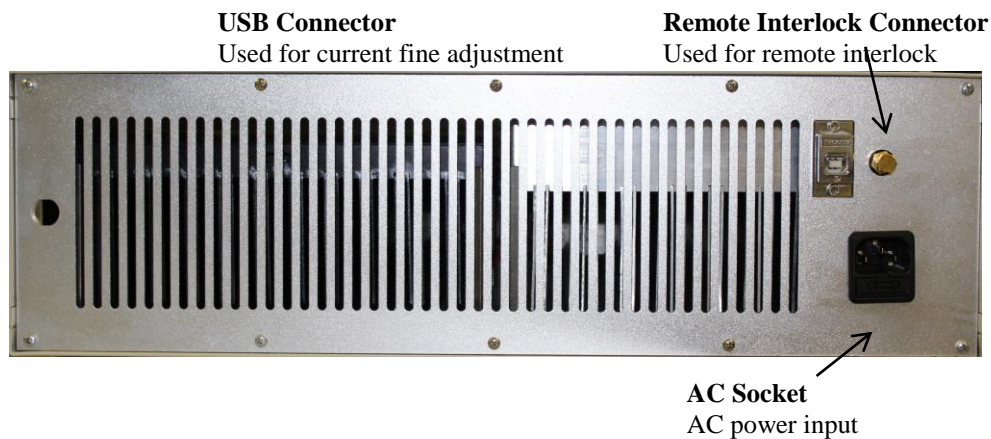

Figure 2. Rear Panel View
- 2) Connect the power cord from the AC outlet to the back panel AC socket (Figure 2).